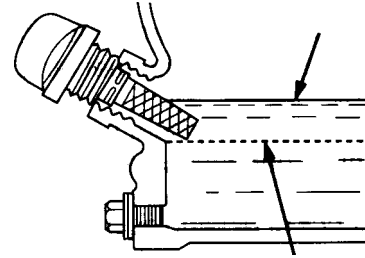

Figure 7. Engine Oil Dipstick (Oil Level)
4. If the oil level is low (Figure 7), fill to the edge of the oil filler hole with the recommended oil type (Table 4). Maximum oil capacity is 1.16 quarts (1.1 liters)